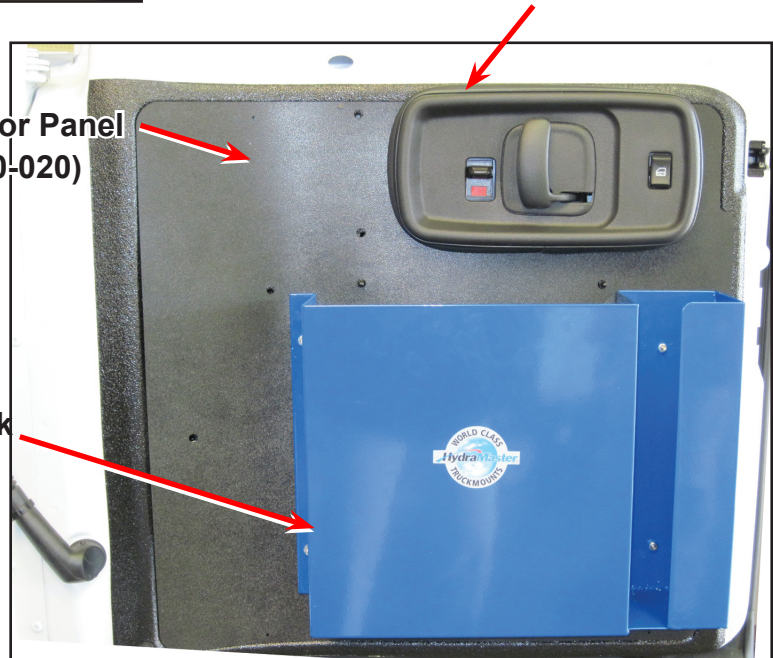
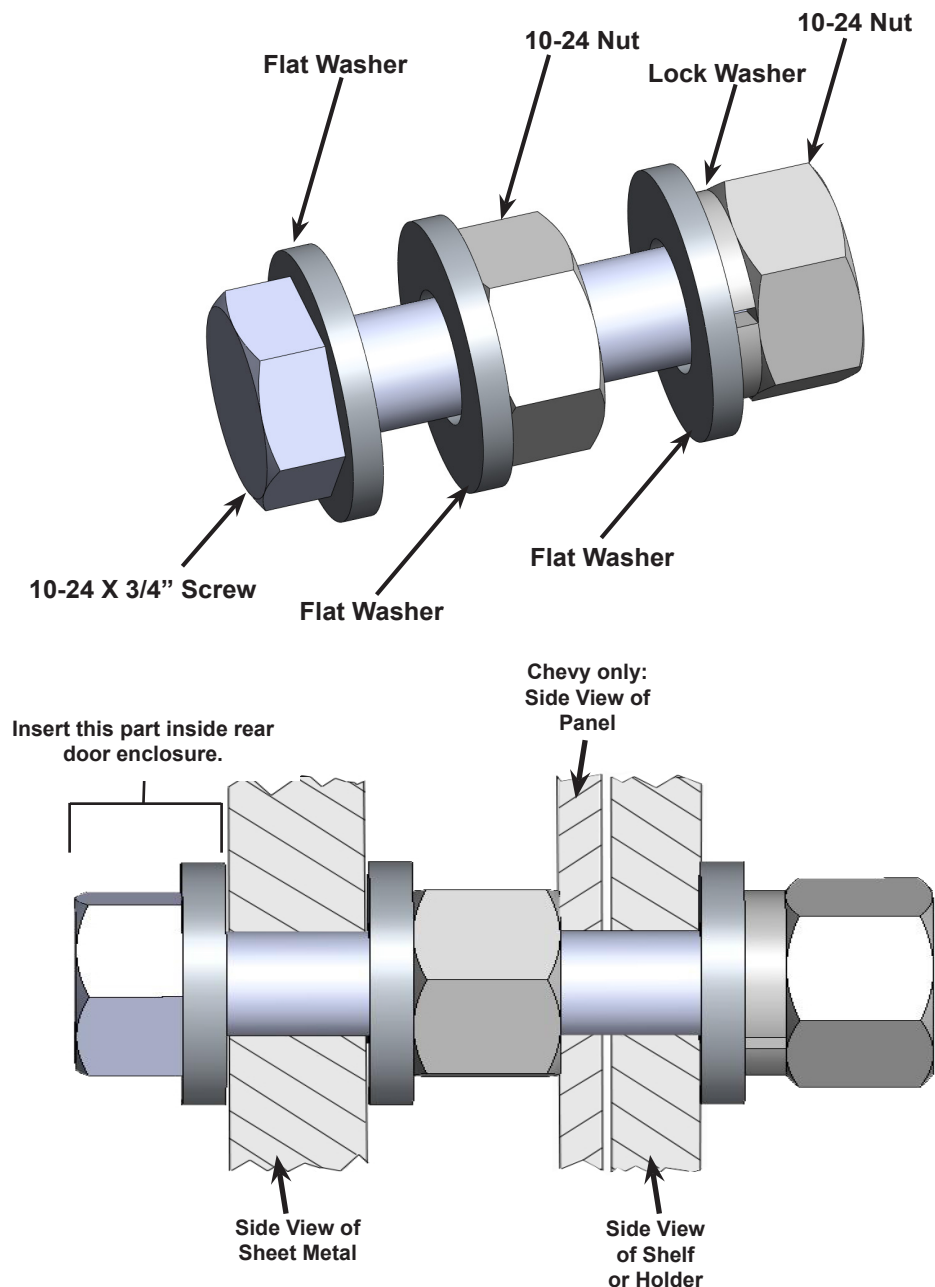

Figure 94. Location of Shelf and Furniture Pad/Snap Block on Back Doors
Figure 95. Install Fastening Hardware in This Order, Starting from Left
1. Dry fit the Panels, Back Door Shelf and the Furniture Pad/Snap Block onto the van's back doors, and mark where the holes should be drilled (see Figure 94).
4. Install the Left Hand Door Panel and the Back Door Shelf Kit (P/N 000-163-050) onto the left hand door, using the fastening hardware included in the kit (see Figure 95).
Mount the fastening hardware onto the 10-24 X 3/4" screw in the order shown in Figure 95 and install as shown in Figure 94.
5. Install the Right Hand Door Panel and the Furniture Pad/Snap Block Kit (P/N 000-163-015) onto the right hand door, using the fastening hardware shown in Figure 95.
Make sure the hardware fastens through the Back Door Shelf, the Furniture Pad and the Panels as shown in Figure 94.